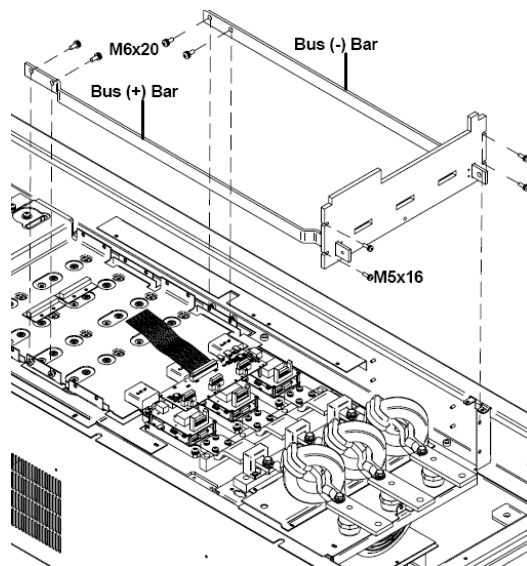

Figure 4.14. Disassembly of the output bakelite
Follow figure 4.14 while reading these instructions:
- 1) Insert the output bakelite in the SD700 following figure 4.14.